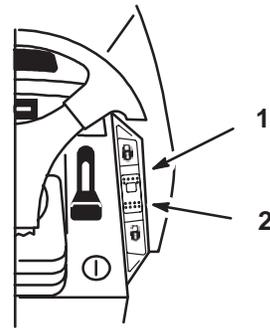

Figure 15
A three position switch, located on the dash (Fig.15), with the functions of: Lock–Set (spring loaded), On and Unlock–Off controls the engagement. Cruise control maintains the traction control position without foot pressure. Cruise control is intended for operation in the forward direction only. Do not use cruise control in reverse.
1. Begin driving tractor: Refer to Driving Forward or Backward, Page 16. While holding your foot steady on the traction control, push the cruise control switch (Fig. 15) to the “Lock–Set” position.
1. While holding your foot steady on the traction control, move the cruise control switch (Fig. 15) to the “Unlock–Off” position.